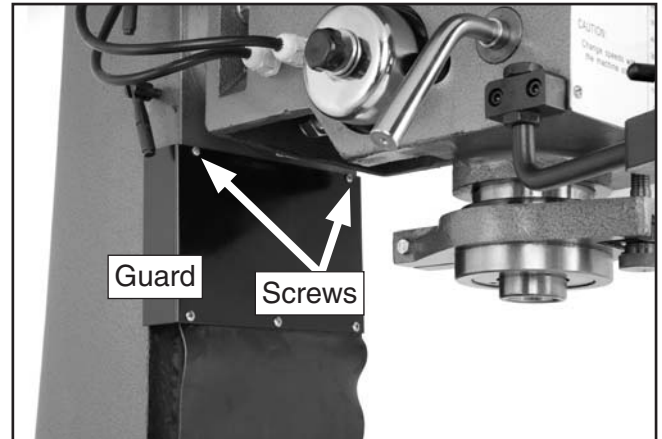

Figure 45. Chip guard.
2. Loosen the headstock lock levers, remove the two Phillips head screws (**Figure 45**) and then remove the guard.